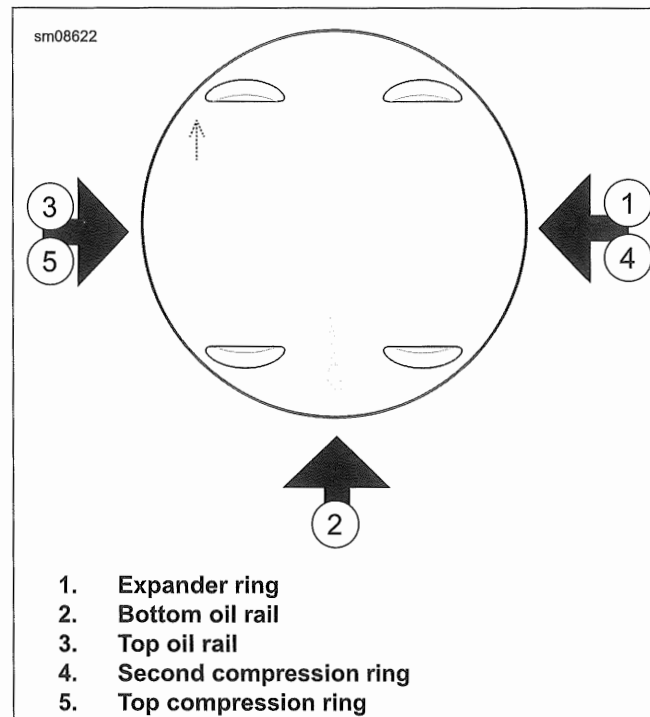

Figure 4-46. Piston Ring Order of Assembly and Gap Alignment
2. Install second compression ring (4).
3. Install top compression ring (5).
5. See Figure 4-46. Arrange gaps as shown.